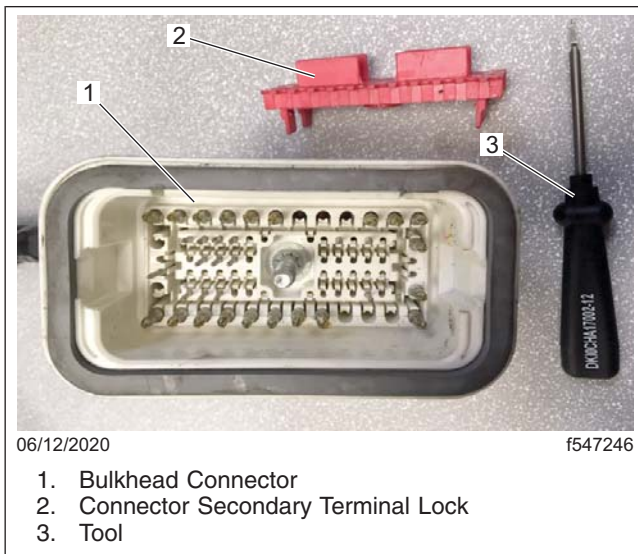

Fig. 2, Connector Removal
5. Remove the connector back shell cover. Using the tool DKIOCHA17002-12, remove the connector secondary terminal lock. See Fig. 2.